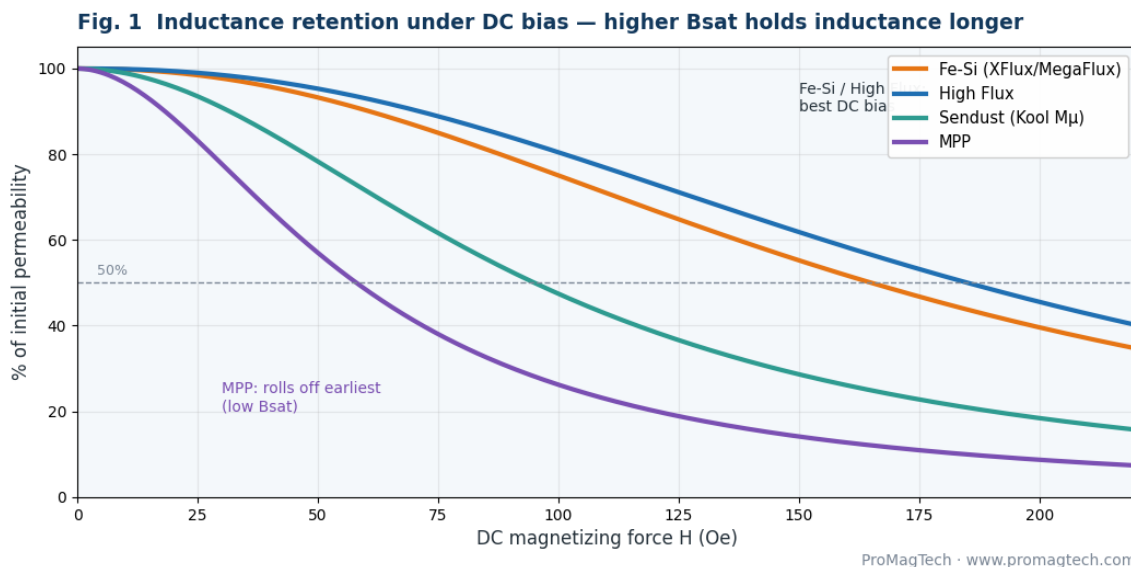
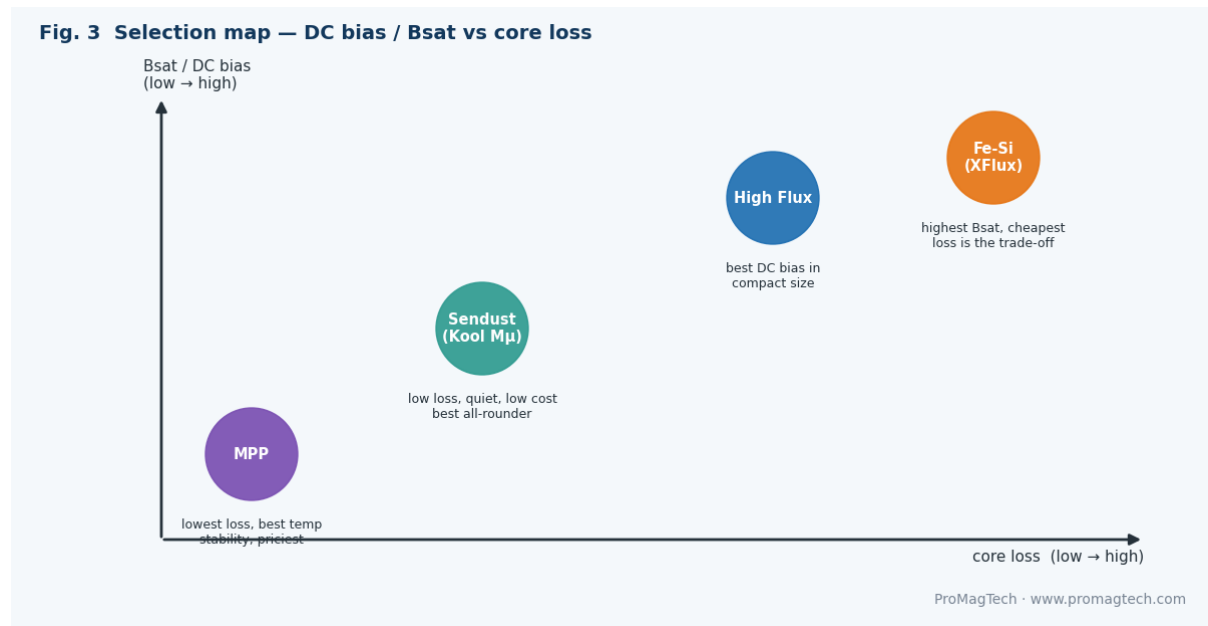

Fig. 1 — Inductance retention under DC bias: higher Bsat holds longer (illustrative; per datasheet).
Fig. 3 — Powder-core selection map: DC bias / Bsat vs core loss.
- 3. Material + permeability μ :** pick one of the four and μ from DC-bias need (Fig. 1) and loss need (Fig. 3).